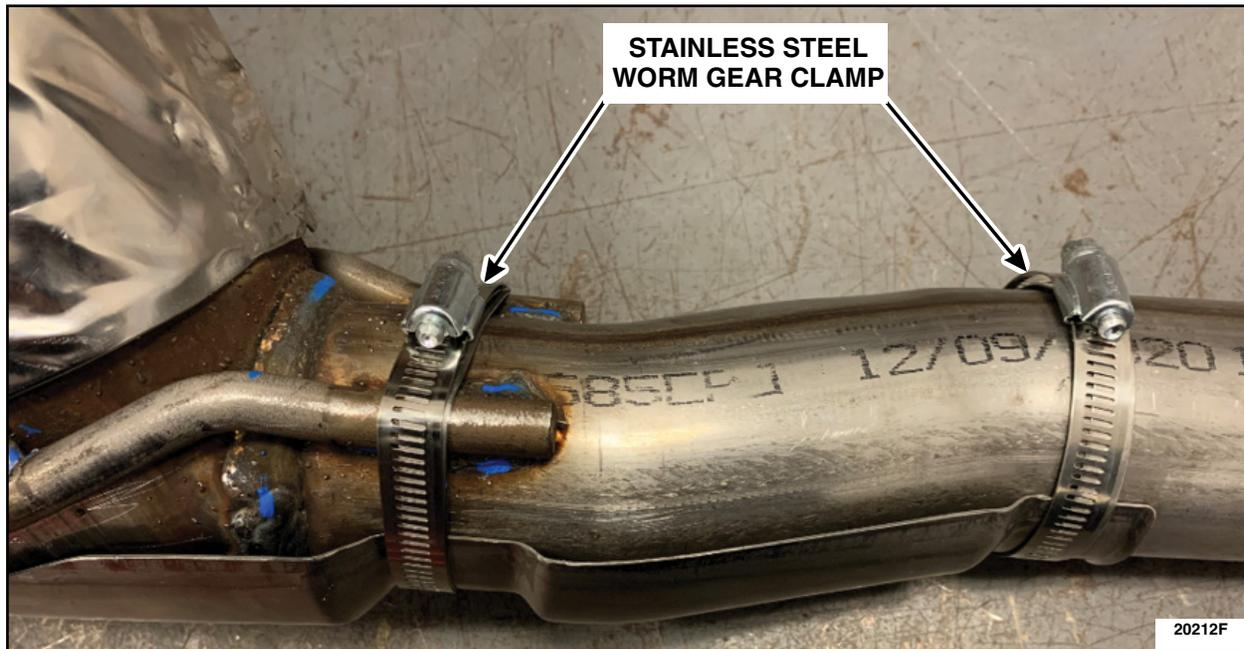

FIGURE 12
8. Apply two 3 inch (76 mm) stainless steel worm gear clamps as shown in Figure 12. Trim any of the excess worm gear band as needed.